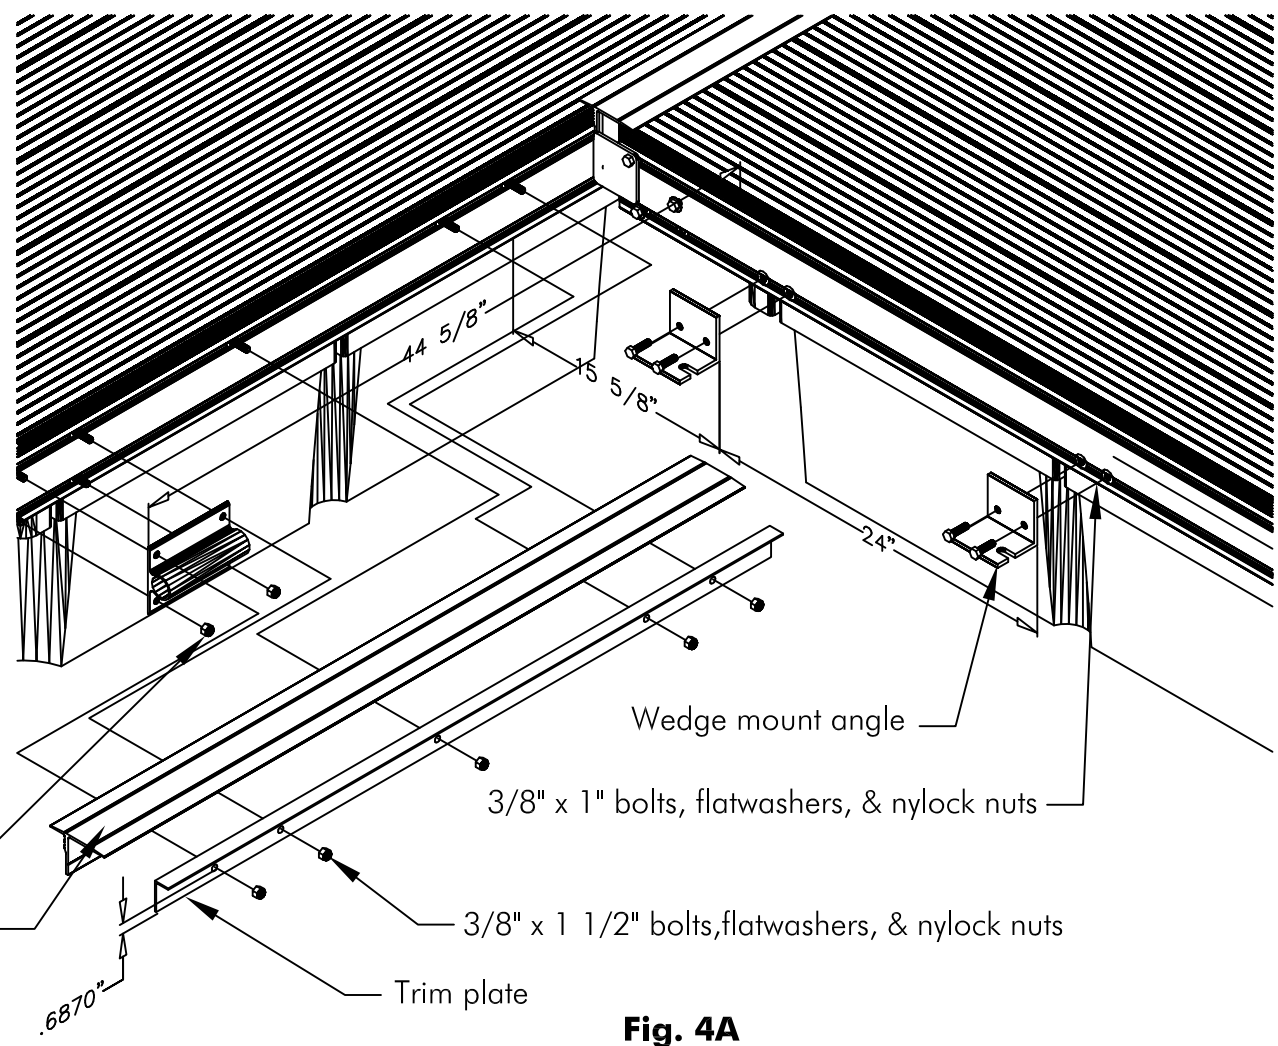
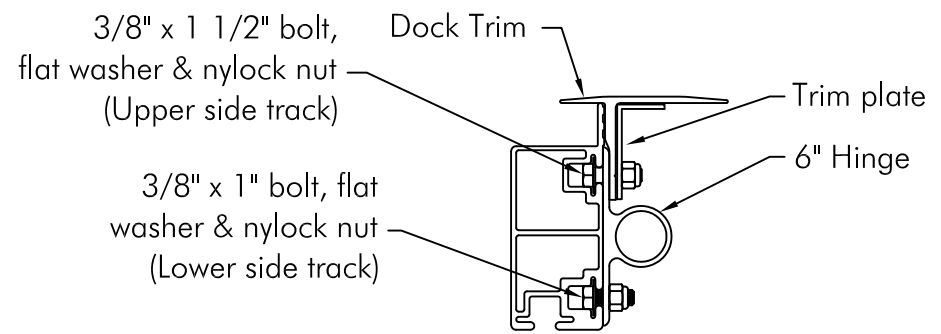

Fig. 4A
Fig. 4B
Determine the location for the hinge section of wedge. Be sure to attach hinge to the same dock side frame as the hinged dock section. Put a small pencil line 44 5/8" over from existing dock section. Insert (5) 3/8" x 1 1/2" bolts w/ (5) 3/8" flatwashers into the upper nut track. Slide (3) bolts with washers towards dock intersection. Insert (2) 3/8" x 1" bolts w/ (2) 3/8" flatwashers into lower nut track. Place the 6" hinge plate over the (2) 1 1/2" bolts in upper nut track farthest from the dock intersection & the (2) 1" bolts in the lower nut track. Now slide the 4" trim over the same (2) bolts & remaining (3) bolts installed earlier. Follow the same procedure with the 4" trim plate. See Fig. 4B. Align the farthest edge of the 6" hinge with the pencil line and install & tighten (7) 3/8" nylock nuts to 40 ft/lbs. See Fig. 4A.
Insert (2) 3/8" x 1" bolts through each wedge mount angle and put a 3/8" flatwasher, & nylock nut on each bolt just finger tight. Insert the flatwashers, & nylock nuts into the lower nut track on the adjacent dock section. Position the wedge mount angles per dimensions in Fig. 4A. Tighten to 40 ft./lbs.